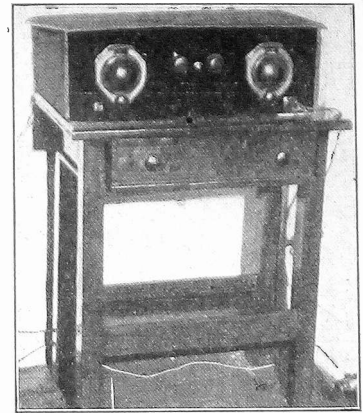

FIG. 529
(4) Fig. 529 illustrates how the completed receiver should appear when inserted in a cabinet. The jacks (not the output jack), phone posts and battery posts are all inserted in the rear of the cabinet. The two large dials control the variable condensers. Next to the left hand dial is the filament rheostat. The potentiometer follows. In the right hand corner the phone jack is inserted. In the left hand corner the filament switch in the detector filament circuit is placed. The —01A tubes should be used throughout the receiver for best results. The detector plate voltage is forty-five. The amplifier voltage is ninety.